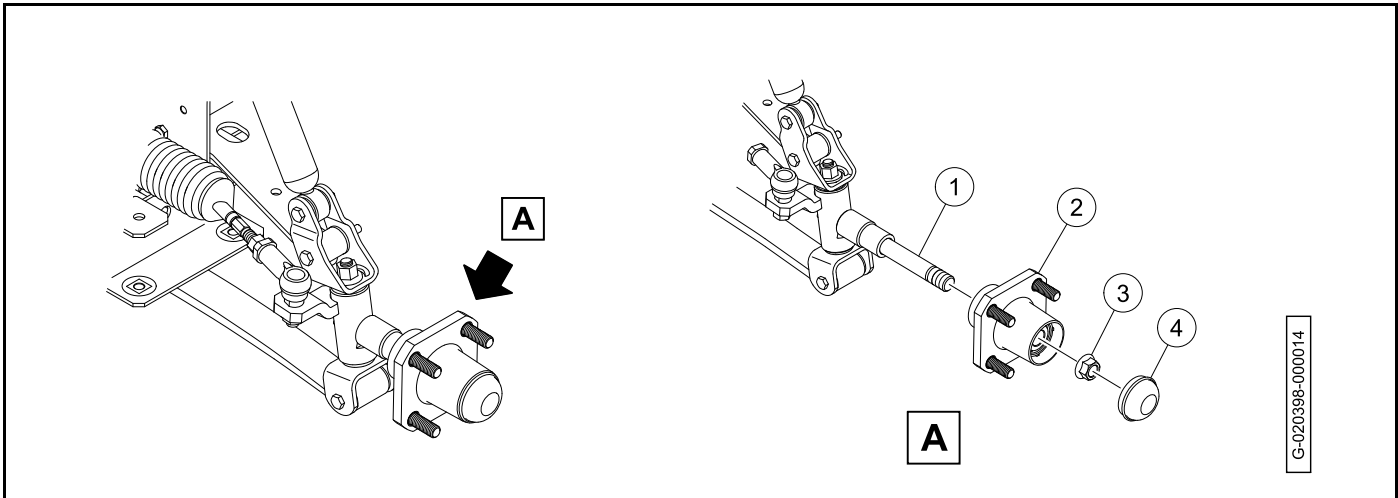

Figure 7-49 Non-Lifted Suspension Shown. Lifted Suspension Is Typical.
1. Apply a light coat of anti-seize lubricant to the spindle shaft (1) (**Figure 7-49**).